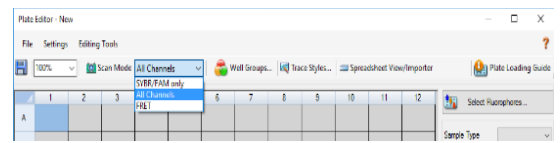

Figure 7. Plate Editor Menu
4.10. Set Scan Mode: Select from dropdown menu (Fig.7)